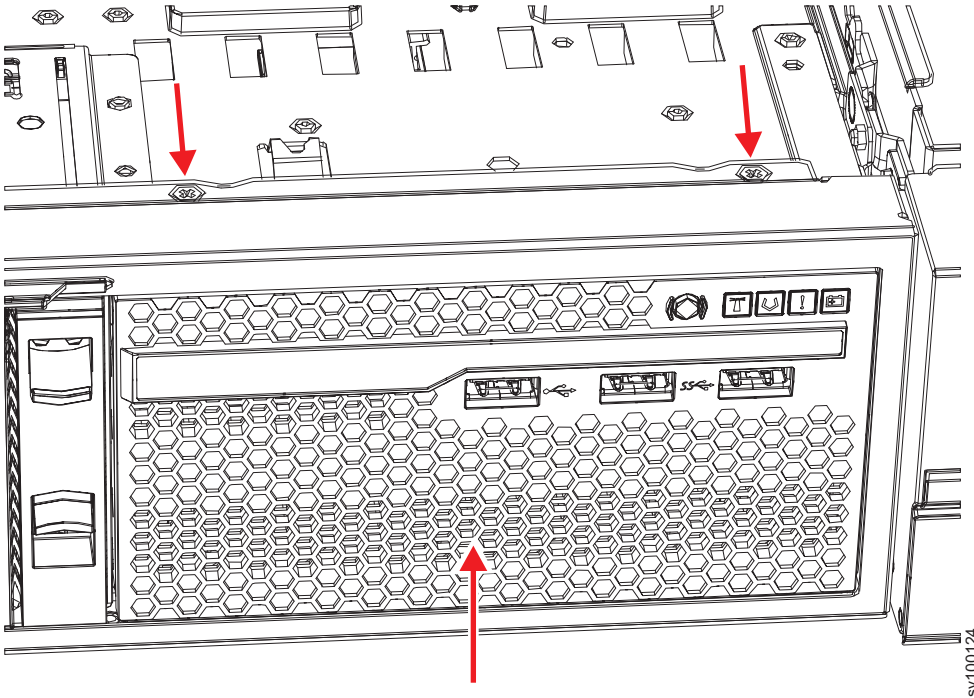

Figure 256. Replacing the 2145-SV1 operator-information panel
2. From the front of the node, slide the operator-information panel into the node until it clicks into place, as shown in Figure 256 on page 307.